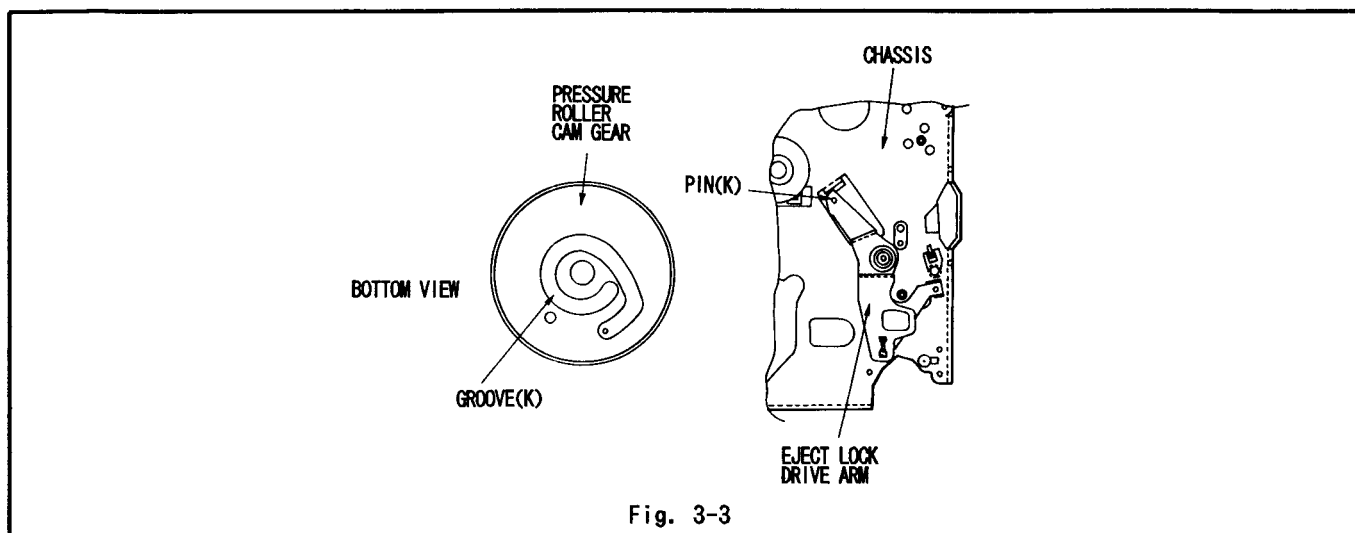

Fig. 3-3
Caution: When reinstalling the pressure roller cam gear, set the eject lock arm to the position shown in Fig. 3-3 and check that pin (K) is inserted in groove (k) in the back of the pressure roller cam gear.